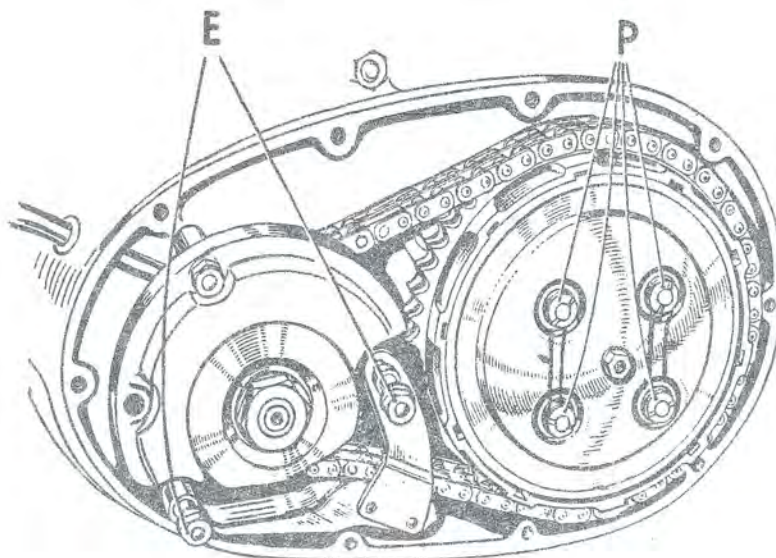

FIG. B.15.
Remove the locking wires and the four spring retaining nuts (P) Fig. B.15, and withdraw the springs with their cups. The pressure plate and the remaining clutch plates can then be taken out. If these are the only items requiring attention, the clutch need not be dismantled further.
Screw on the four spring nuts (P) Fig. B.15, with the special screwdriver No. 61-3700 until the underside of each head is approximately $\frac{1}{8}$ in. from the face of each cup.
Replace the primary chain tensioner into the two lower stator studs (E) Fig. B.15 with appropriate spacers.